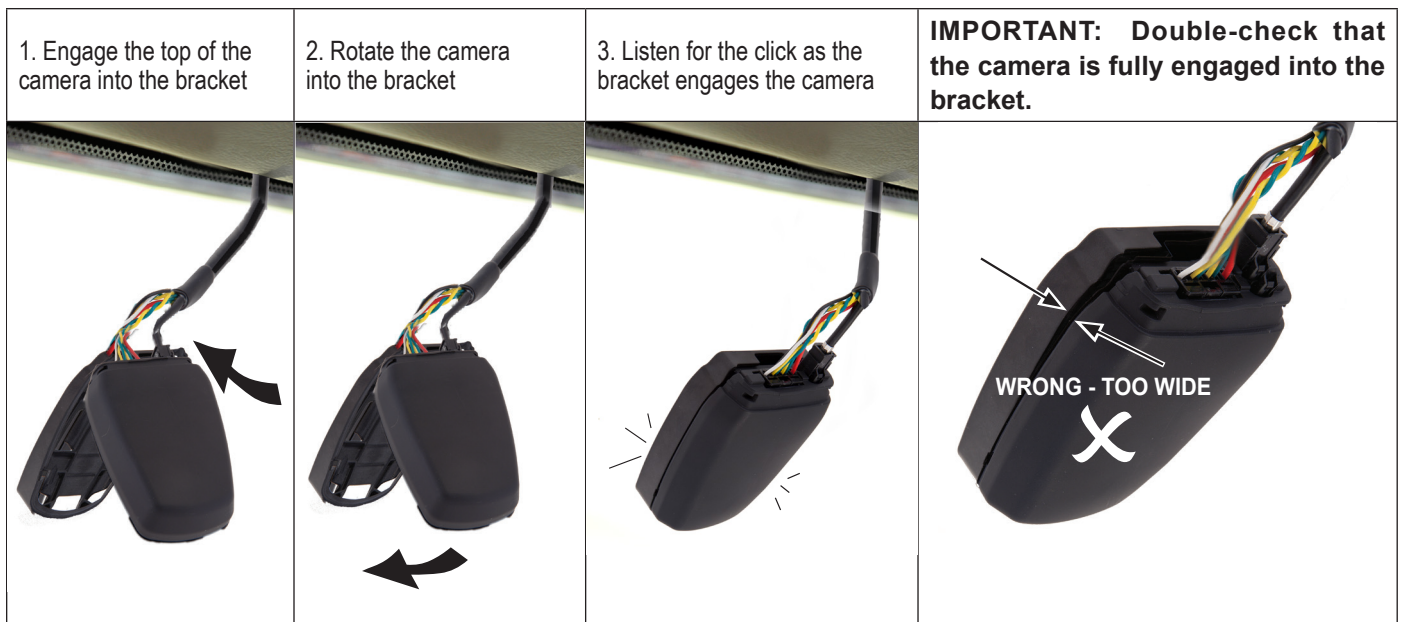

FIGURE 12 - CAMERA INSTALLATION
To install the camera into the bracket, See *Figure 12*.
4. Double-check that the camera is fully engaged into the bracket, by verifying that the channel between them has the same gap all the way around. Pull gently on the camera to check that the tabs at the top and bottom are engaged and that there is no play. See *Figure 12*.